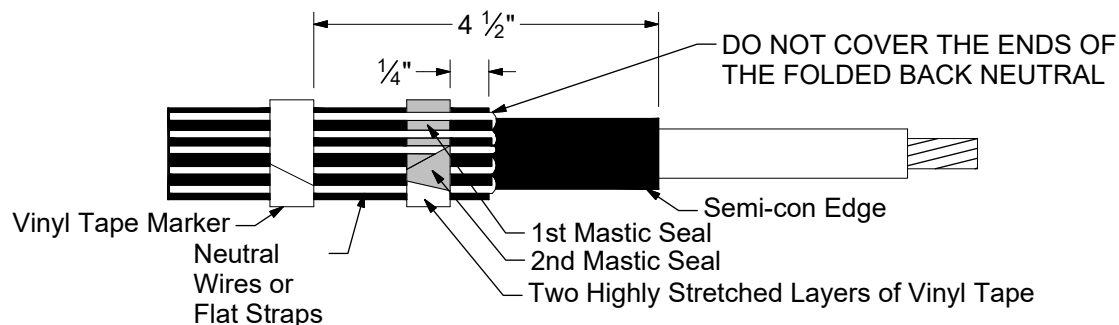

Figure 3
4. Bend the neutral wires (flat straps) back over applied mastic and secure to cable jacket 4-1/2" from the edge of the semi-con. Use vinyl tape to secure the wires (straps). This tape will be used to position the terminator, so the location is critical. See Figure 3.
5. Select the second mastic strip from the kit and remove the white release liners. Apply a second single wrap of mastic over the neutral wires (straps) and the previously applied mastic strip. Cut off excess. See Figure 3.
Compress the neutral wires (straps) into the mastic by overwrapping the strips with two highly stretched layers of vinyl tape. Be sure to cover all exposed mastic. See Figure 3.